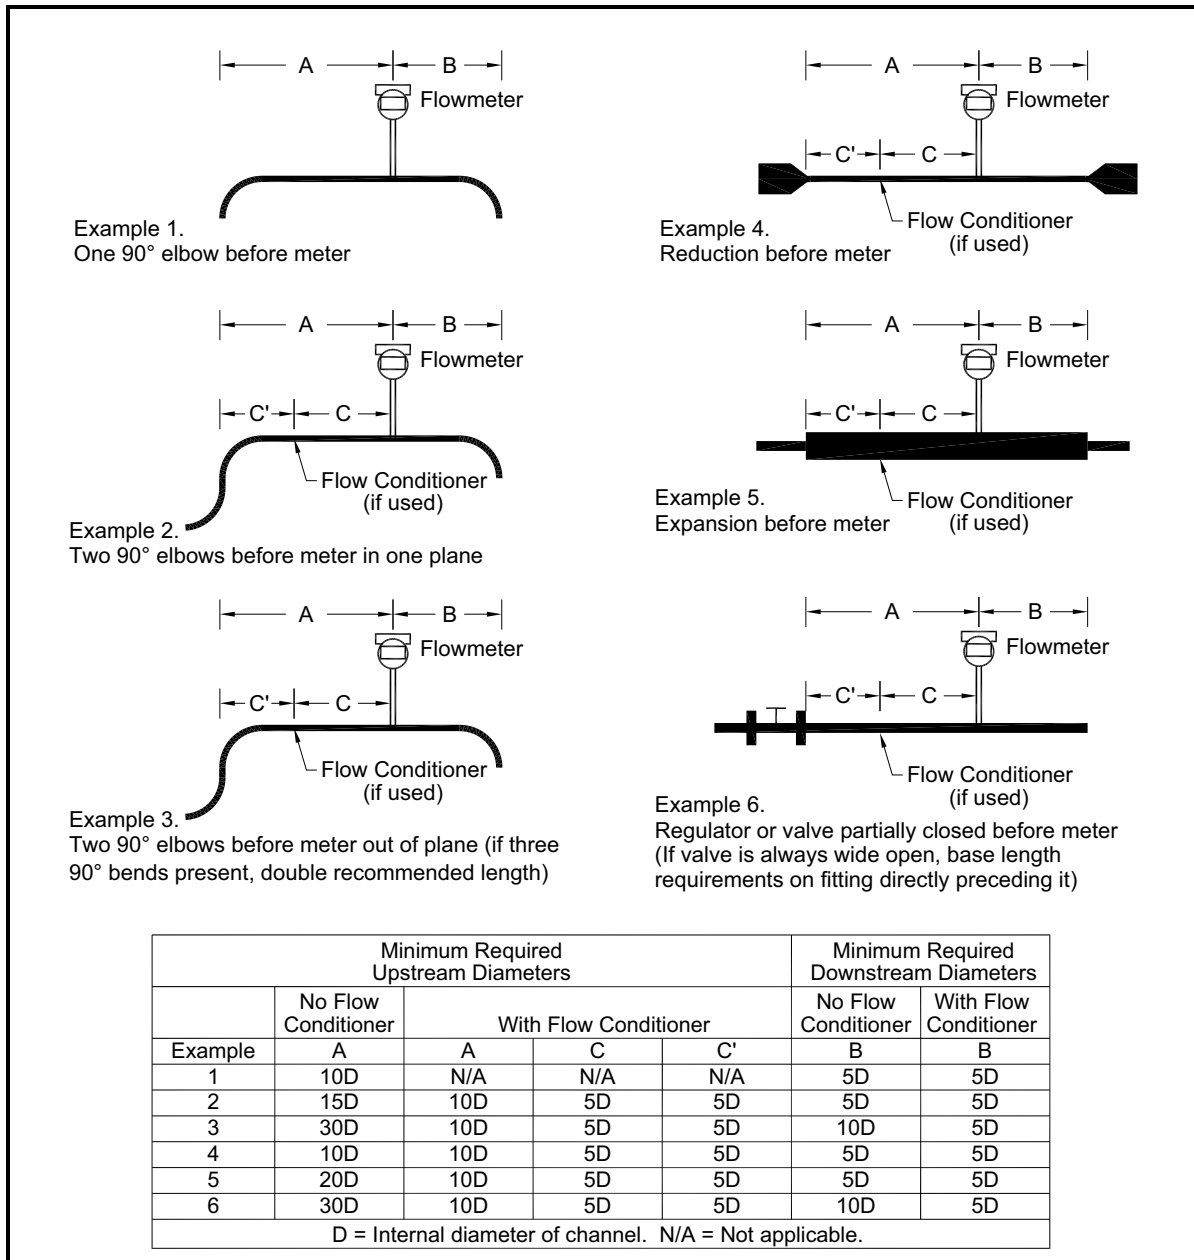

Figure 4: Recommended Pipe Length Requirements for Installation of Series MV80 & MV82
2. The location meets the required minimum number of pipe diameters upstream and downstream of the sensor head as illustrated in *Figure 4 on page 10*.
Select an installation site that will minimize possible distortion in the flow profile. Valves, elbows, control valves and other piping components may cause flow disturbances. Check your specific piping condition against the examples shown in *Figure 4* below. In order to achieve accurate and repeatable performance install the flow meter using the recommended number of straight run pipe diameters upstream and downstream of the sensor.
2. Confirm that the installation site meets the minimum upstream and downstream pipe diameter requirements. See *Figure 4 on page 10*.